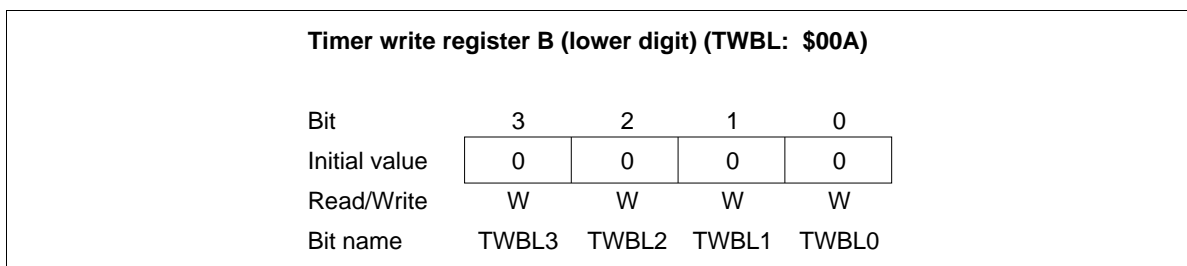

Figure 46 Timer Write Register B Lower Digit (TWBL)
- Timer write register B (TWBL: \$00A, TWBU: \$00B): Write-only register consisting of the lower digit (TWBL) and the upper digit (TWBU) as shown in figures 46 and 47. The lower digit is reset to \$0 by MCU reset, but the upper digit value is invalid.